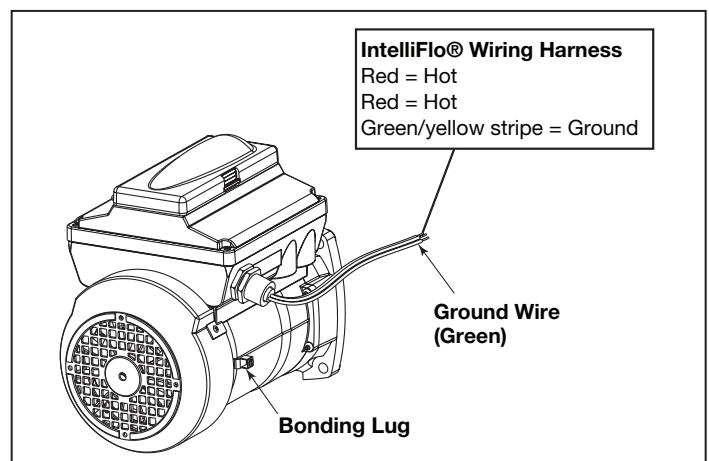

Figure 11. Pentair External Bonding
6. Permanently ground the motor using the green ground wire, as shown in Figure 11. Use the correct wire size and type specified by National Electrical Code® (NEC®) and the Canadian Electrical Code (CEC®). Make sure the ground wire is connected to an electrical service ground.
7. Bond the motor to the pool structure in accordance with the National Electrical Code (NEC) and the Canadian Electrical Code (CEC). Use a solid No. 8 AWG or larger copper conductor (US). Run a wire from the external bonding lug to the pool bonding structure, as shown in Figure 11.
8. Connect the two red hot wires of the pump to the two line side connections on the filter pump relay as shown in Figure 11.